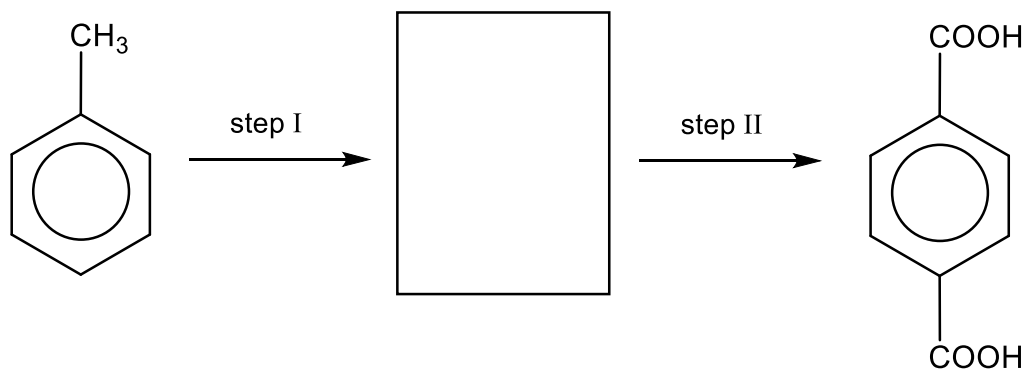

Fig. 6.1
- (f) Figure 6.1 shows a two-step synthesis of benzene-1,4-dicarboxylic acid from methylbenzene. State the reagents and conditions for each step and draw the structure of the intermediate.